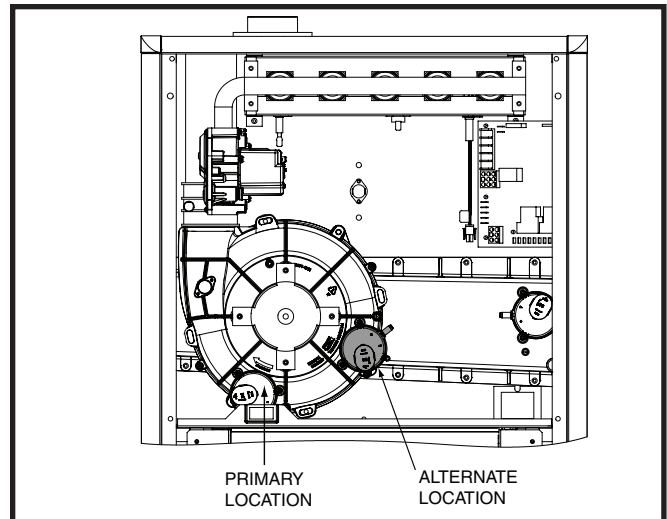

Figure 17. Alternate Pressure Switch Location
2. Label and disconnect the tubing and wires from the pressure switch (Figure 17 (page 17)).